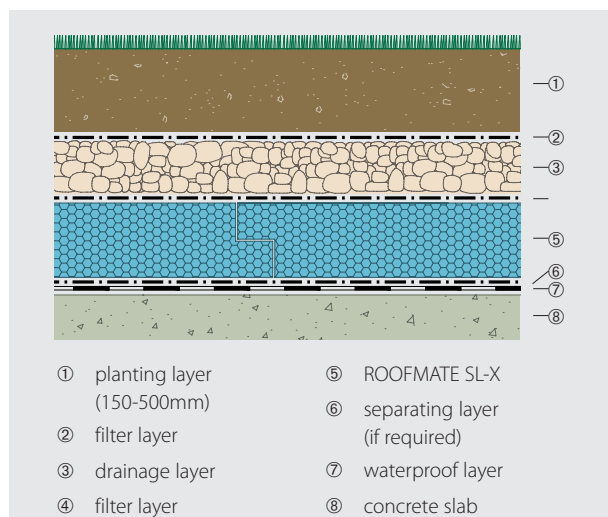

Figure 25 >> Intensive green roof
- » **intensive:** using a thick plant-bearing layer (150-500mm) and traditional garden plants including lawn-grass, shrubs and even small trees. Intensive green roofs require full access for maintenance, are suitable for roof gardens and are often combined with paved areas and terraces to provide amenity areas. The type of planting chosen will determine the roof construction above the filter layer: extensive planting requires a planting layer which will retain some water whilst intensive planting requires a thicker, soil-based plant-bearing layer and a drainage layer (Figure 25).